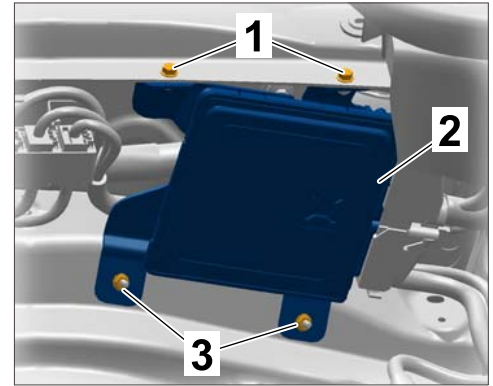

Figure 31
3.3 Secure DME control unit holder ⇒ *Figure 31 -2-*.
3.3.2 Position DME control unit holder. Screw in and tighten fastening screws at the top ⇒ *Figure 31 -1-*.
Screw on and tighten fastening nuts at the bottom ⇒ *Figure 31 -3-*.